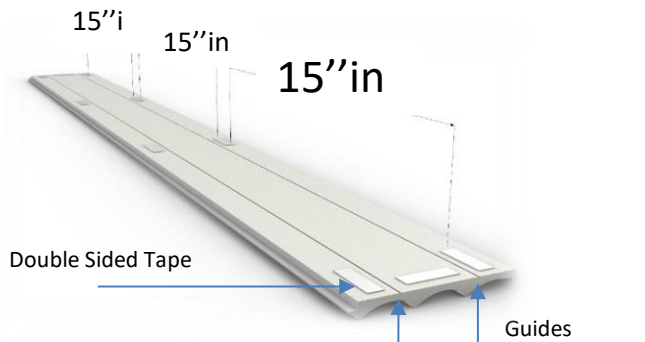

figure 11
- See item 3 Technical drawing table
- Apply pieces of Double Sided Tape between 1' to 2' inch long, spaced no more than 15' inches apart. Start applying the Double Sided Tape at the ends of the bar and one more at each end. See Figure 11.